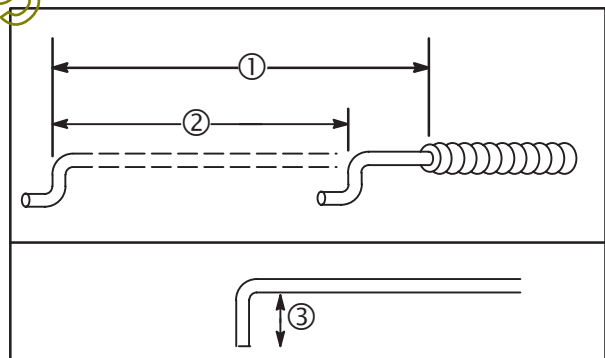

Fig. 4
In order to make proper remote control adjustments, the remote control wire must have travel of **not less than 1-3/8" (35 mm)** (2) with controls mounted in equipment. **Fig. 4**. The dimension from the end of the cable casing to the wire at the end of its travel (1) is **2-1/8" (54 mm) minimum**.